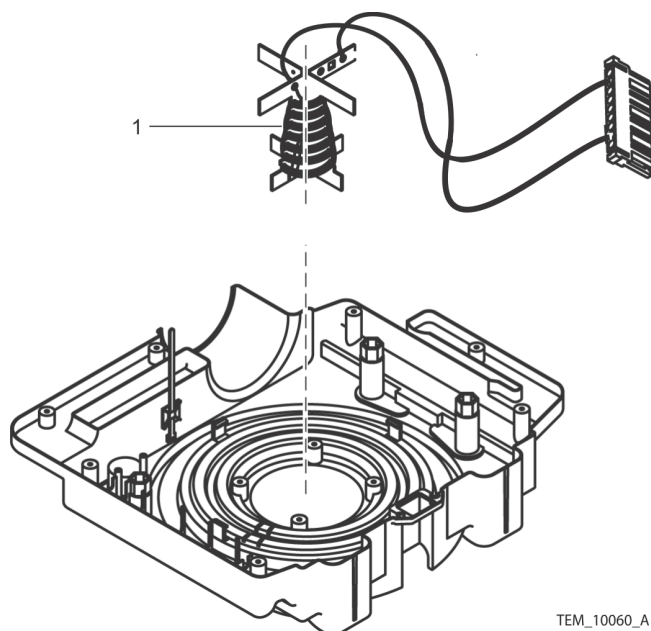

Figure 71. Heater Assembly
28. Lift the heater assembly (Figure 71, item 1) out of the rear cover assembly.